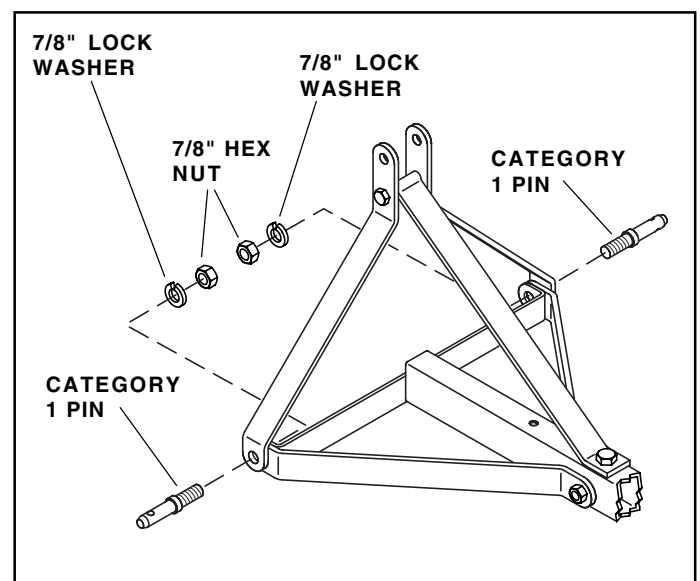

FIGURE 7
7. Connect the lower end of each mast side and the front end of the each mast brace to the ends of the mast assembly's cross brace using two category 1 pins, two 7/8" lock washers, and two 7/8" hex nuts. See figure 7.